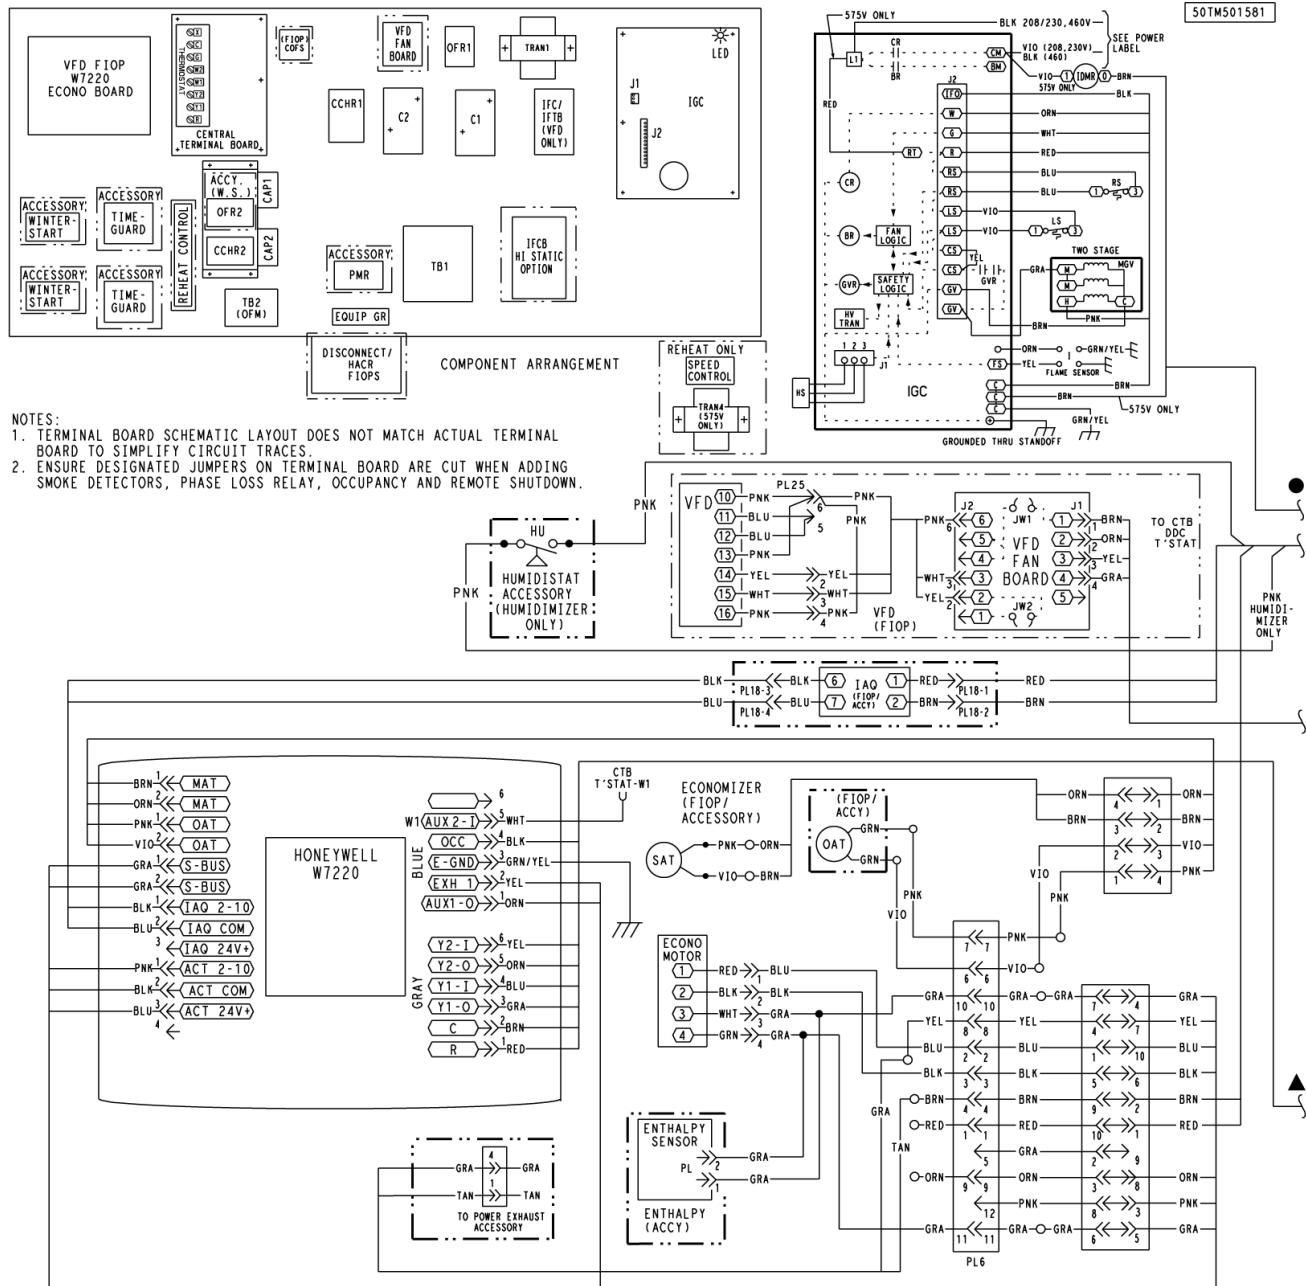

Fig. 5 - Typical EconoMi\$er X Wiring Diagram
4. Use the sheet metal screw (no. 8) for use with Step 3 to mount the HH79ZZ7 dry bulb sensor on the front left of the Economi\$er X frame, as shown in Fig. 5. Use the screw hole in the Economi\$er X frame.